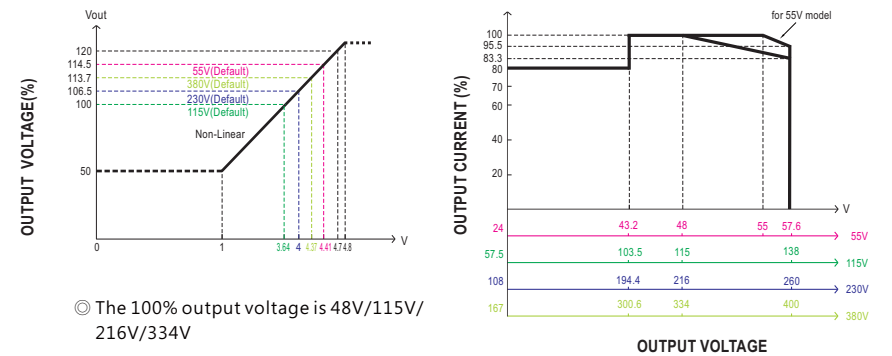

Figure 5-3
C.Relationship between output voltage and external DC source is shown in Figure 5-3.